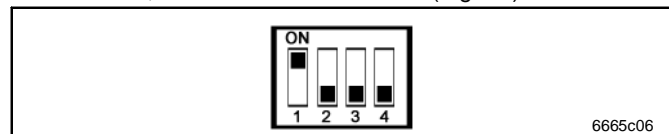

Fig. 17 DIP switch: progressive systems – ready for operation
- After that, switch SW4 back to OFF (Fig. 17).